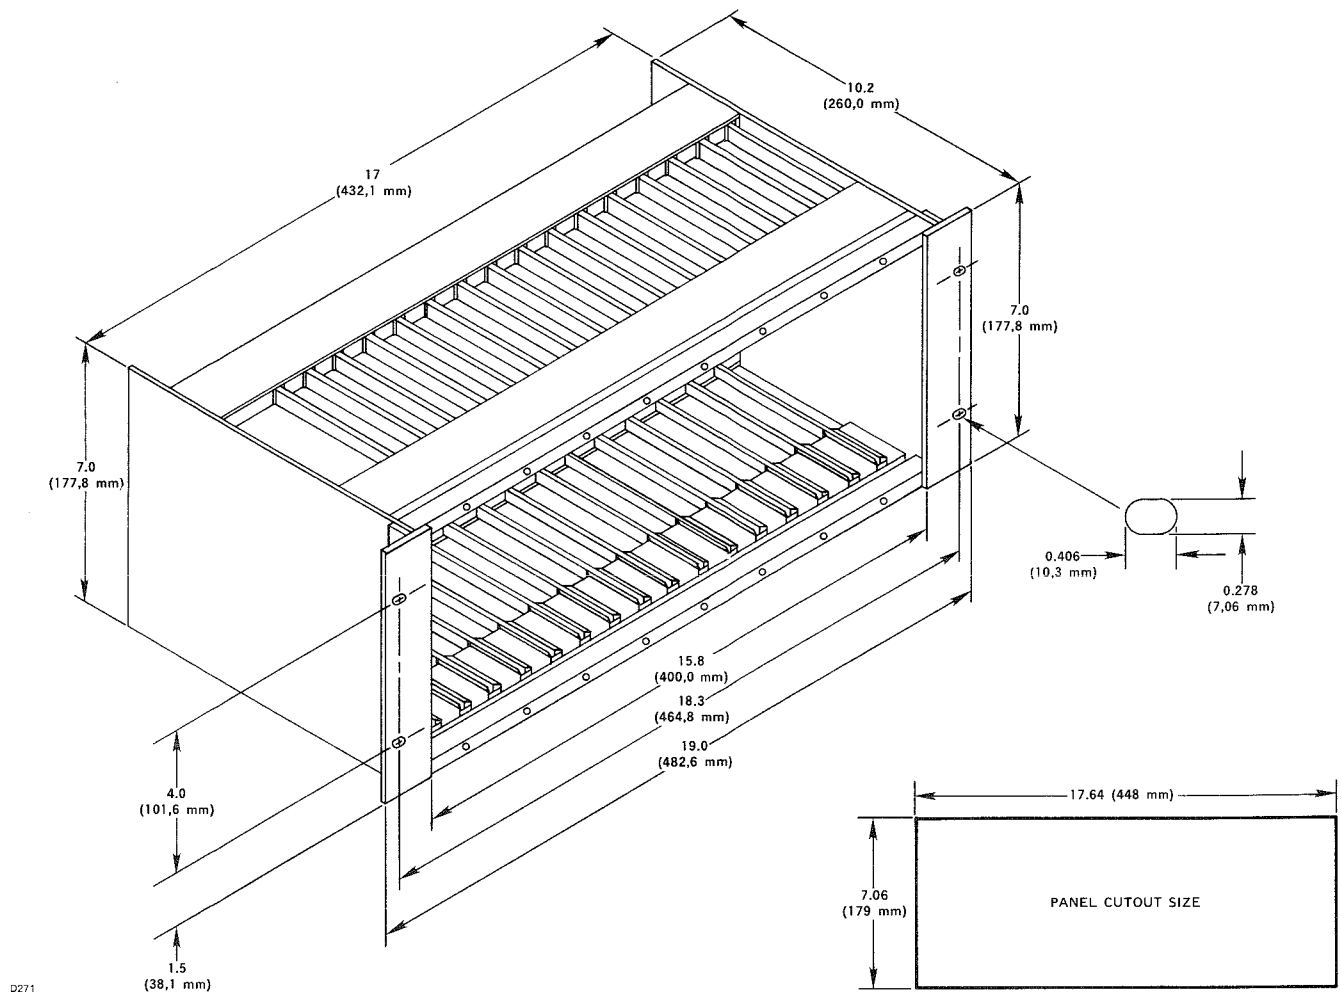

Figure 5—Q4004 Mounting Cage Dimensions in Inches (Millimeters)
- The Q4004 Mounting Cage, illustrated in Figure 5, is designed for holding up to eight modules in a standard 19 inch instrument rack and is recommended for ease of installation and service. See form 95-8241 for additional information. Mounting cages that hold fewer modules are also available.